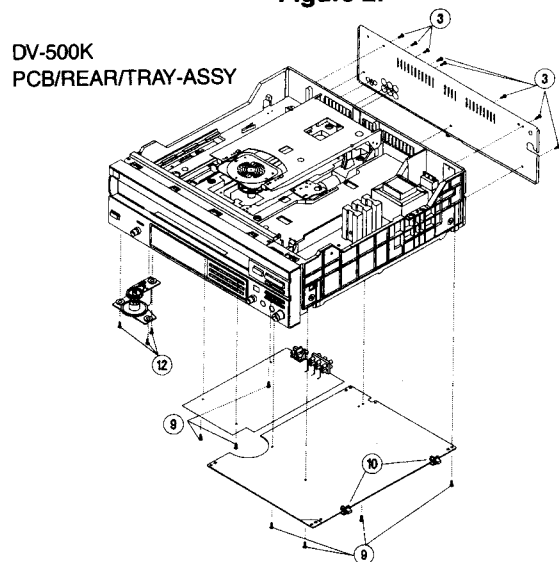

Figure 3.
- (1) Remove Cabinet-Top.
- (2) Remove Chassis Bottom.
- (3) Remove Chassis Rear.
- (4) Release 4 screws ⑨ from Main PCB and 3 screws from PAL PCB.
- (5) Disconnect Connecting Wires.
- (6) Remove PCB holder ⑩. (Figure 3)
- (4) Remove Tray.
- (5) Remove MAIN PCB.
- (6) Remove 3 screws ⑫ at the bottom of Tray Motor. (Figure 3).